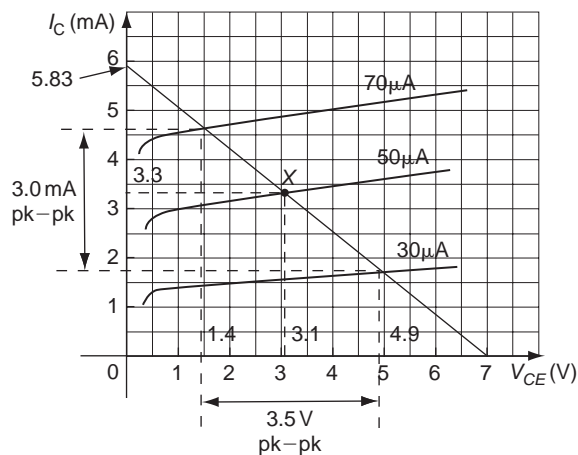

Figure 14.27
The characteristics are drawn as shown in Fig. 14.27.
- (b) The maximum and minimum values of collector–emitter voltage may be determined by locating the appropriate intercept points on Fig. 14.27. Note that the maximum and minimum values of base current will be $(50\text{ }\mu\text{A} + 20\text{ }\mu\text{A}) = 70\text{ }\mu\text{A}$ on positive peaks of the signal and $(50\text{ }\mu\text{A} - 20\text{ }\mu\text{A}) = 30\text{ }\mu\text{A}$ on negative peaks of the signal. The maximum and minimum values of V_{CE} are, respectively, 4.9 V and 1.4 V. Hence,
From Fig. 14.27, the output current swing, i.e. the change in collector current, $\Delta I_C = 3.0\text{ mA}$ peak to peak. The input base current swing, the change in base current, $\Delta I_B = 40\text{ }\mu\text{A}$